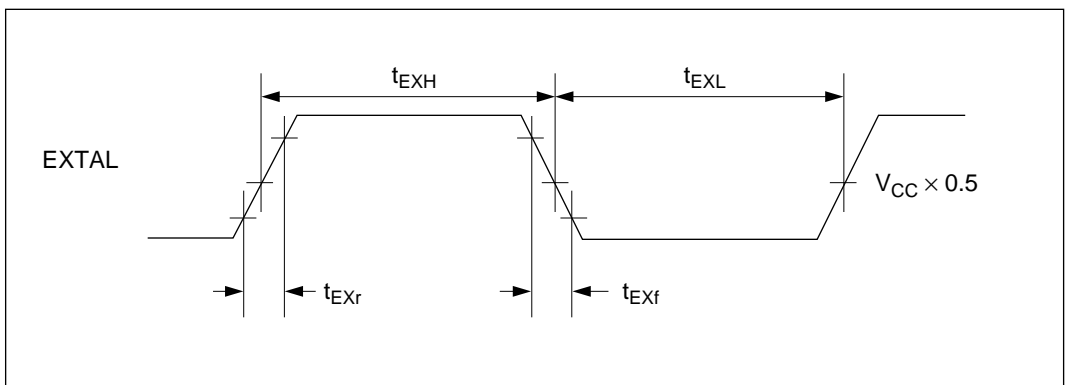

Figure 8-6 External Clock Input Timing
(2) External Clock: The external clock frequency should be equal to the system clock frequency (ϕ). Table 8-3 and figure 8-6 indicate the clock timing.